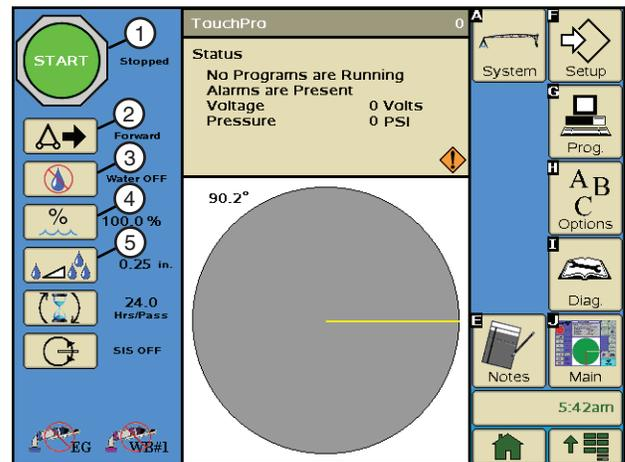

Figure 49-1 1. Start/Stop 4. Percent Timer
3. Press the  button on the Main screen to turn the water ON. See Figure 49-1.
3. Press the  button on the Main screen to turn the water OFF. See Figure 49-1.